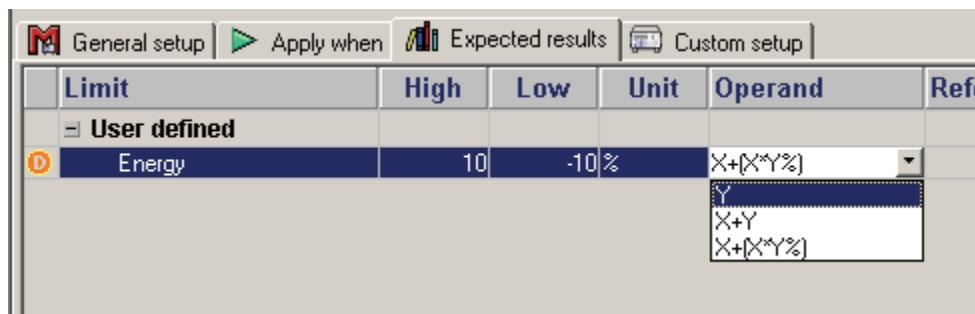

Figure 4-4. Changing the Operand in Expected Results
- To define how Ansur calculates the limit values for certain measurements, click the **Operand** field to see a drop-down menu, as shown in Figure 4-4.